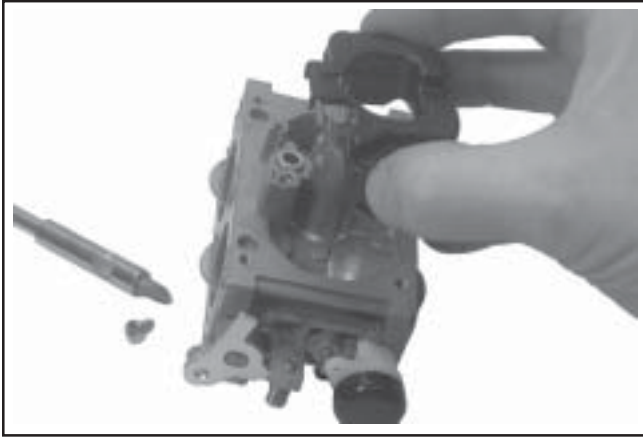

**Figure 5-16. Fuel Bowl Removed From Carburetor.**
2. Clean the exterior surfaces of dirt or foreign material before disassembling the carburetor. Remove the four mounting screws and carefully separate the fuel bowl from the carburetor. Do not damage the inner or bowl O-Ring. Transfer any remaining fuel into an approved container. Save all parts. Fuel can also be drained prior to bowl removal by loosening/removal of the bowl drain screw. See Figure 5-16.